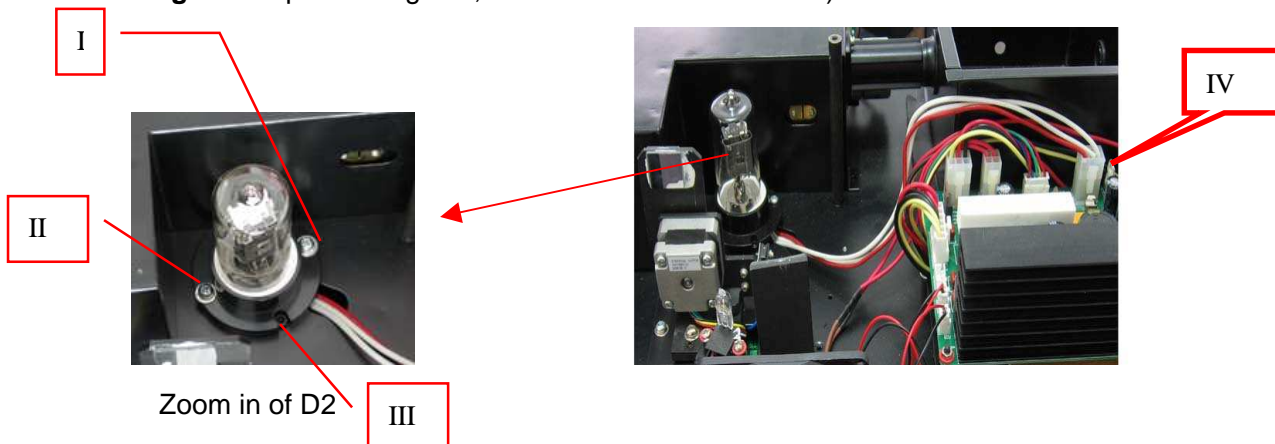

Fig.4-3
6. Disconnecting the 3-wire connector by pulling it straight up. Remember the direction of the white connector. (**Figure. IV** in the following Fig.4-3))